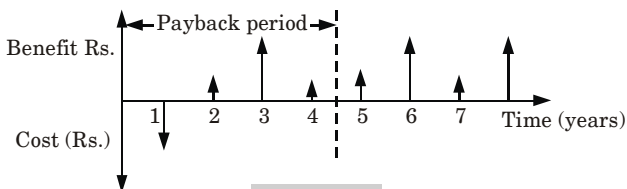

Fig. 3.9.1.
5. Payback period can be illustrated by cash flow diagrams (CFD) as shown in Fig. 3.9.1.